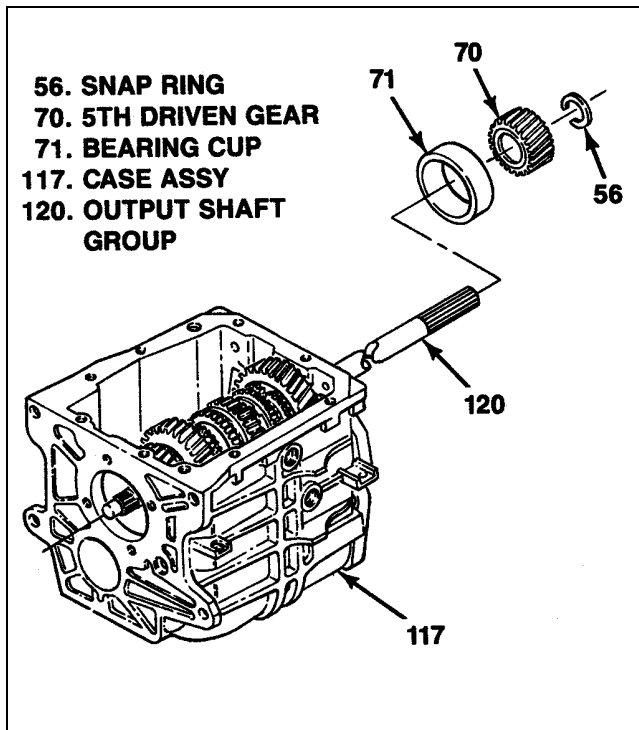

Figure 6-10. Installation of T5 WC Output Shaft Group
6-12. INSTALLATION OF T5 WC OUTPUT SHAFT GROUP. After assembly of output shaft group (120) (paragraph 6-11), install as follows (see figure 6-10):
- Tilt rear end of output shaft group (120) down and install through top opening and out rear of transmission case (117). Rest output shaft group on countershaft previously installed.
- At rear of transmission case 8117, install bearing cup (71), 5th, driven gear (70) and one snap ring (56).